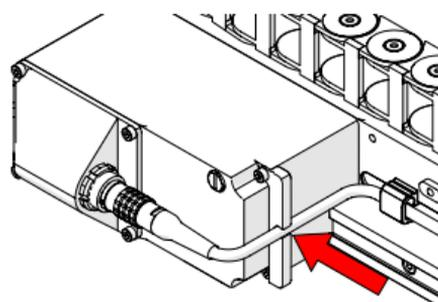

Fig. 34 - Press raster arm cable into cable bracket
2. Press the raster arm cable into the cable bracket on the side of the raster arm encoder housing (Fig. 34).